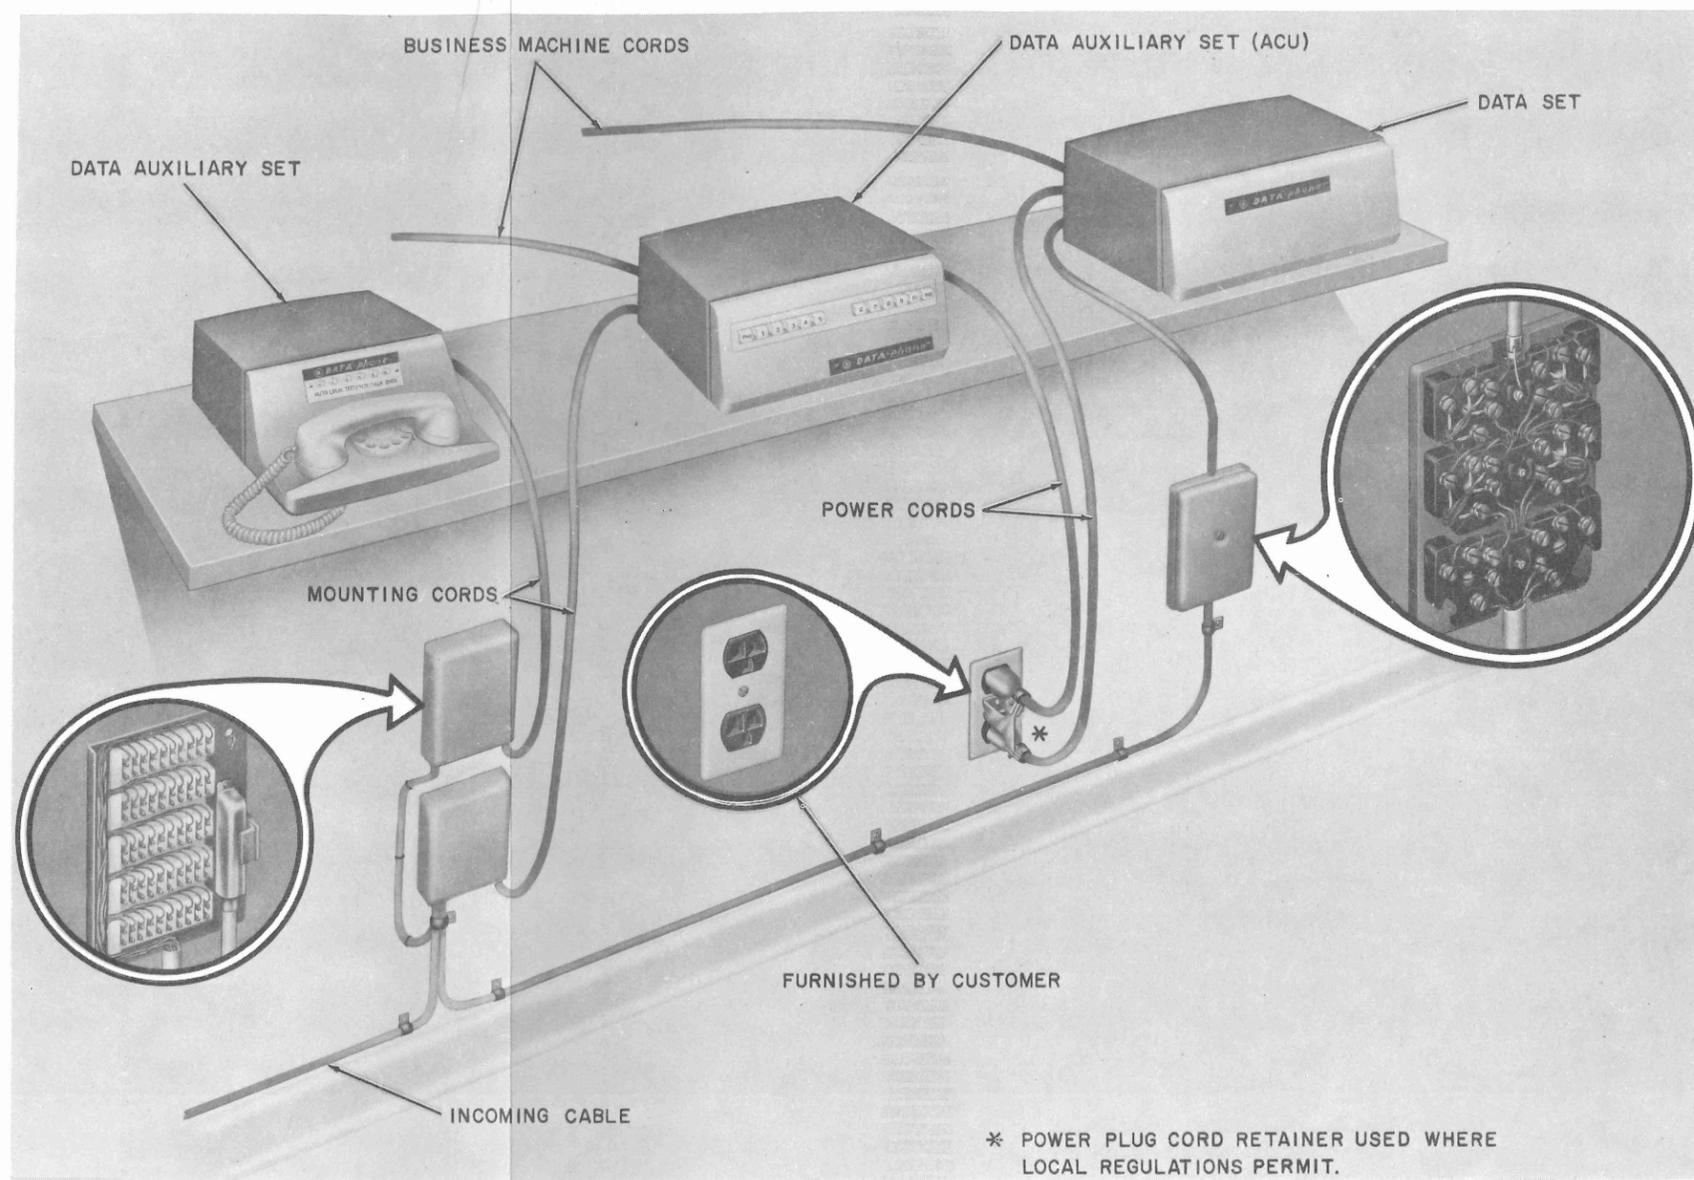

Fig. 3 — Main Components of a Typical Installation Layout
3.02 The main components of a typical installation layout are shown in Fig. 3.